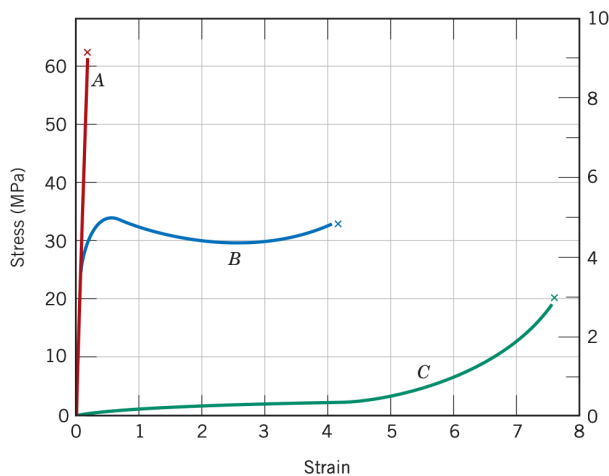

Figure 15.1 The stress-strain behavior for brittle (curve A), plastic (curve B), and highly elastic (elastomeric) (curve C) polymers.
Figure 15.1: Tensile stress-strain curves for polymers displaying three distinct regimes: (A) Brittle polymer, (B) Plastic / semi-crystalline polymer exhibiting necking and drawing, and (C) Highly elastic elastomer — from Callister & Rethwisch 10th Ed. (Fig. 15.1).